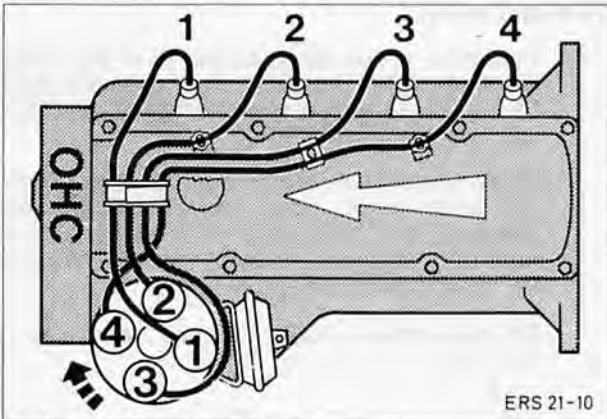

Fig. 190. Arrangement of HT leads (firing order)
- Connect HT leads, Fig. 190, and connect battery earth strap.